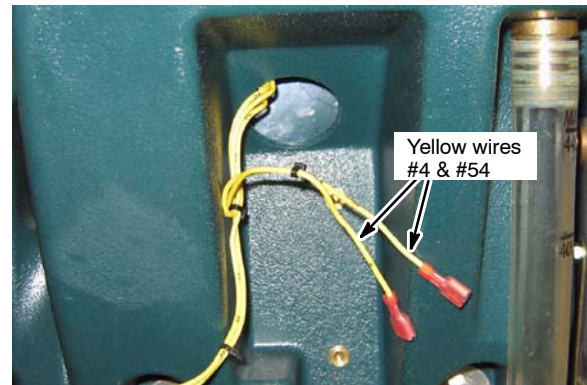

Fig. 4
4. Route the two yellow wires with open terminals from control console down through hole as shown (Figure 4).